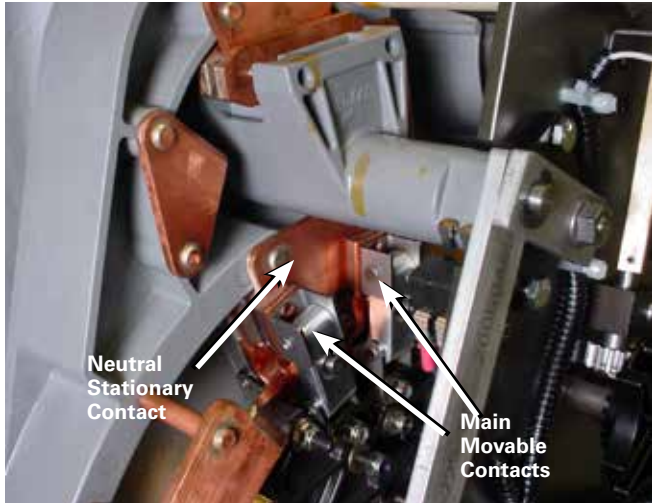

Figure 101. Neutral stationary contact.
- A. Main movable contacts are located on the neutral stationary contact, which is located at the 11 o'clock position and under the reversing switch movable contact assembly. See Figure 101.